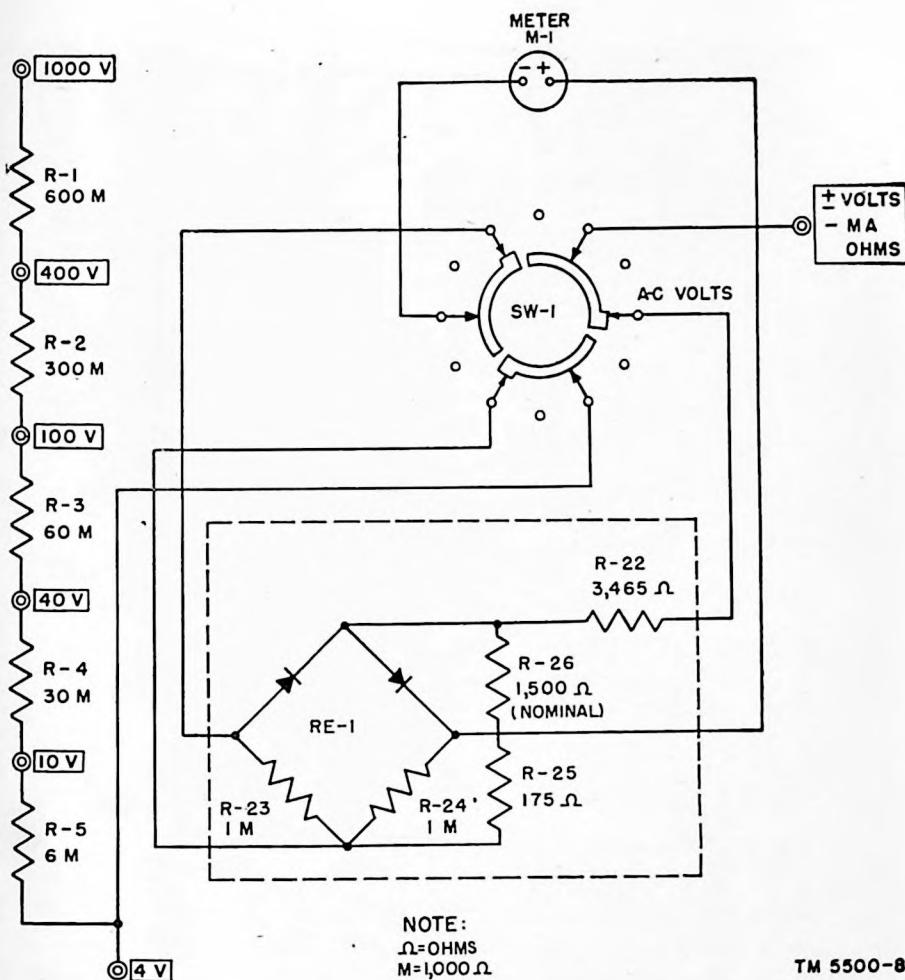

Figure 8. A-c voltmeter circuit, schematic diagram.
c. A-c VOLTMETER (fig. 8). When the multimeter is used to measure a-c voltage, the universal shunt is not connected and the meter is used at its capacity of 250 microamperes. A rectifier bridge, consisting of the copper-oxide rectifier RE-1 and resistors R-23 and R-24, is connected across the meter with R-22, which forms the multiplier for the 4V range. The rectifier input is shunted by resistors R-25 and R-26, which are temperature-compensating on a-c voltage measurements and are matched to control the rectifier input. Successive addition of resistors R-5, R-4, R-3, R-2, and R-1 permits measurements in the 10V, 40V, 100V, 400V, and 1,000V ranges, respectively.